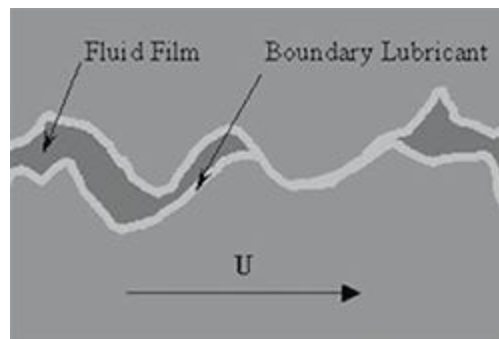

Figure 2.1—Boundary Lubrication
1. **Boundary lubrication**, where surfaces are in contact with each other even though a lubricant is present (see Figure 2.1). This is generally an undesirable operating regime for a fluid film bearing since it leads to increasing friction, energy loss, wear, and material damage. If designed properly, most machines will experience boundary lubrication only during start-ups, shutdowns, and low speed operation. Special lubricants and additives have been developed to lessen the negative effects of this regime. When constant starts and stops create boundary lubrication the life of a machine is reduced.